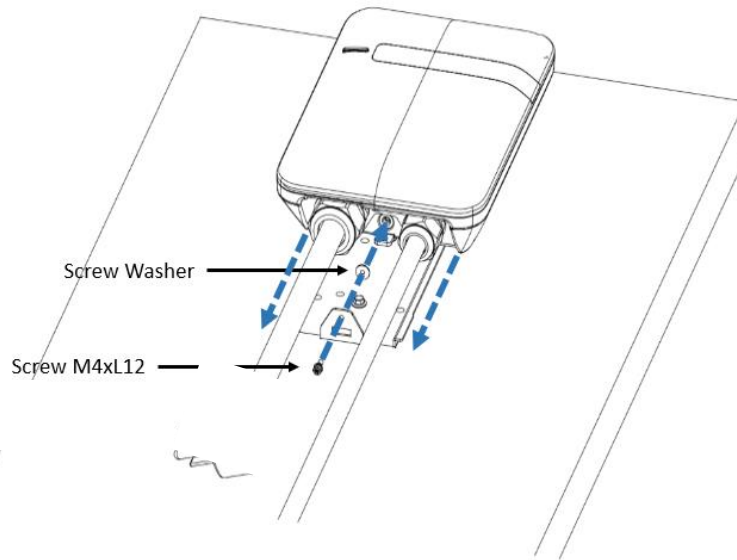

Figure 2-5 Screw locking position
5. Once the EVOREEL unit is installed, install the EVSE box onto its mounting bracket and secure the lock screw as shown in Figure 2-5.